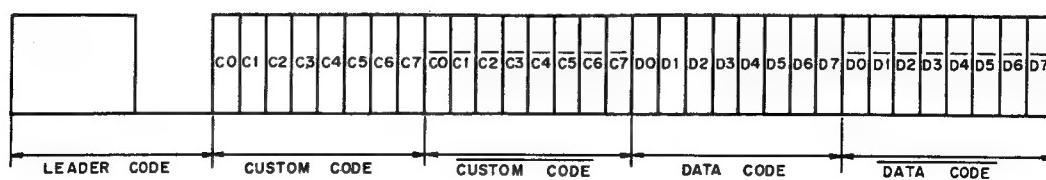

Fig. 4-11 Format and Data Structure of the Remote Control Signal
- The signal format must conform to that of μ PD6102G. (See figure 4-11.)
The remote control signal is received at the remote control signal receiver section of the SA-V70, and sent through the SA-V70's internal waveform shaping circuit and buffer to the REM IN terminal of the PL-V70. The data is then applied via a protection circuit made up of D15 through D17, to pins 7 and 21 of Q2. The input signal pattern at this stage is as shown in figure 4-11. This signal is decoded by Q2(PDE003) into the logical format described in figure 4-12 and output to Q1 (PD 6037), the system control IC. The signal is sent for at least 96 msec. If you keep pressing the commander key, however, the signal is continuously sent from Q2 until the commander key is released.